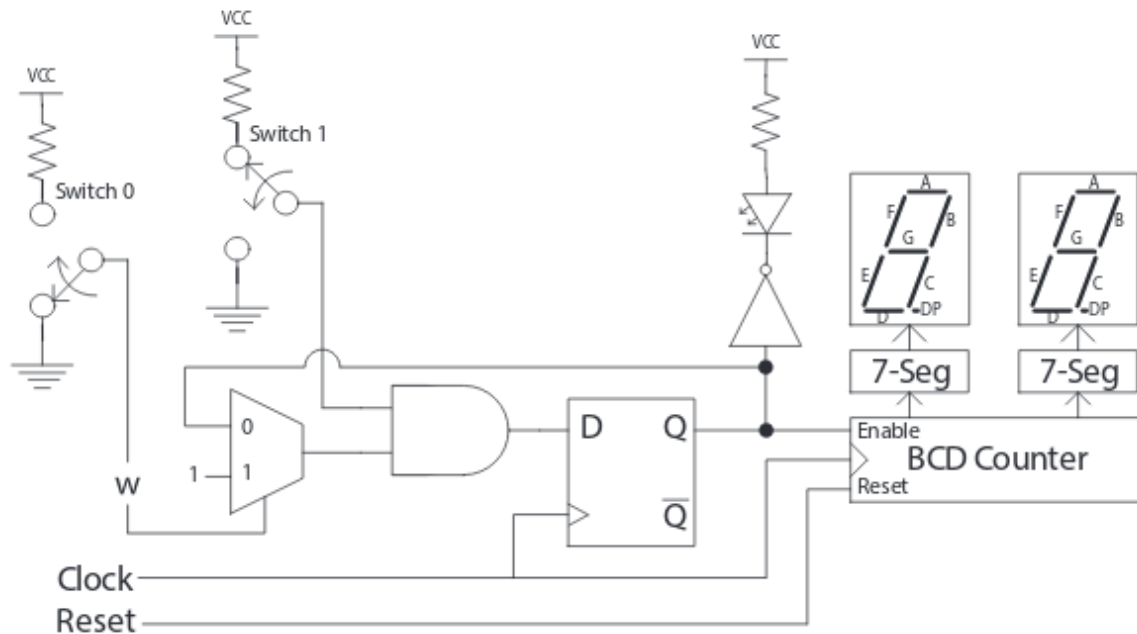

Figure 1: Circuit for Testing Your Reaction Speed
Figure 1 shows the overall circuit that you will design and build. You will use a clock (Clock) to drive a two-digit counter; the input control to the mux (w) will be a pulse that lights the LED. The LED will turn off as soon as the switch (connected to the AND gate) is pressed, and the signal Reset can be used to reset the counters, the display, and get the circuit ready to start over.
1.2. Now that you have a 100 Hz clock, you can use that to count the time it takes you to press the switch after the LED goes on and display that on two 7-segment displays. To accomplish this you will need to write a code that will increment the least significant digit and every time it reaches the number 9 you reset it and increment the most significant digit. Write Verilog code to implement the two digit BCD counter shown in Figure 1.
1.3. Write Verilog code to implement the entire circuit as shown in Figure 1. Use one of the LEDs on your board to test the code